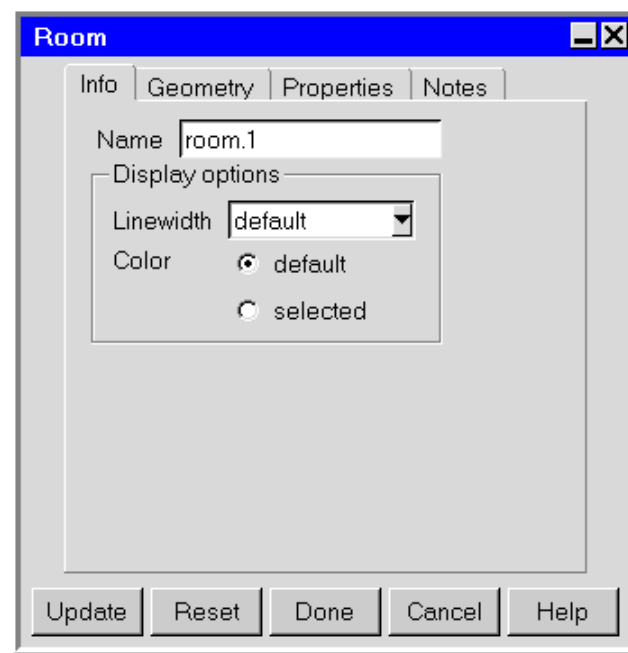

Figure 7.2.2: The Room Panel (Info Tab)
Each option is described in detail below. Click the **Apply** button to modify the room to reflect any changes you have made to the text entry fields in the room **Edit** window. Click the **Reset** button to undo all the changes you have made to the text entry fields in the panel and to restore all text entry fields in the panel to their original states. Click the **Edit** button to open the **Room** panel (Figures 7.2.2–7.2.5).
- Specify the dimensions of the room in the **Room** panel (Figures 7.2.2–7.2.5). To open this panel, double-click on the **Room** item under the **Model** node in the **Model** manager window.
Airpak allows you to change the name of the room. The name of the room is displayed in the **Name** text entry box in the **Room** panel (Figure 7.2.2).
The **Color** of the room in the graphics window is shown as **default** in the **Room** panel (Figure 7.2.2). The color that will be applied to the room when **default** is selected is defined in the **Object types** section of the **Preferences** panel (see Section 6.3.6 for more details on changing the default color using this panel). To change the color of the room, select the **selected** option next to **Color** and click on the square button to the right of the **Color** text field. A color palette menu will open. You can select the new color in the color palette menu. To select a different color, click on the icon in the lower right corner of the palette menu. Select a new color using the method or panel that is appropriate to your system.
The **Linewidth** of the room in the graphics window is shown as **default** in the **Room** panel (Figure 7.2.2). The width of the line used to display the room when **default** is selected is defined in the **Graphical styles** panel (see Section 6.3.6 for more details on changing the default line width using the **Graphical styles** panel). To change the width of the line for the room, select one of the options in the drop-down list next to **Linewidth** (**default**, 1, 2, 3, 4, or 5). Click **Update** at the bottom of the **Room** panel to change the width of the line for the room in the graphics window.